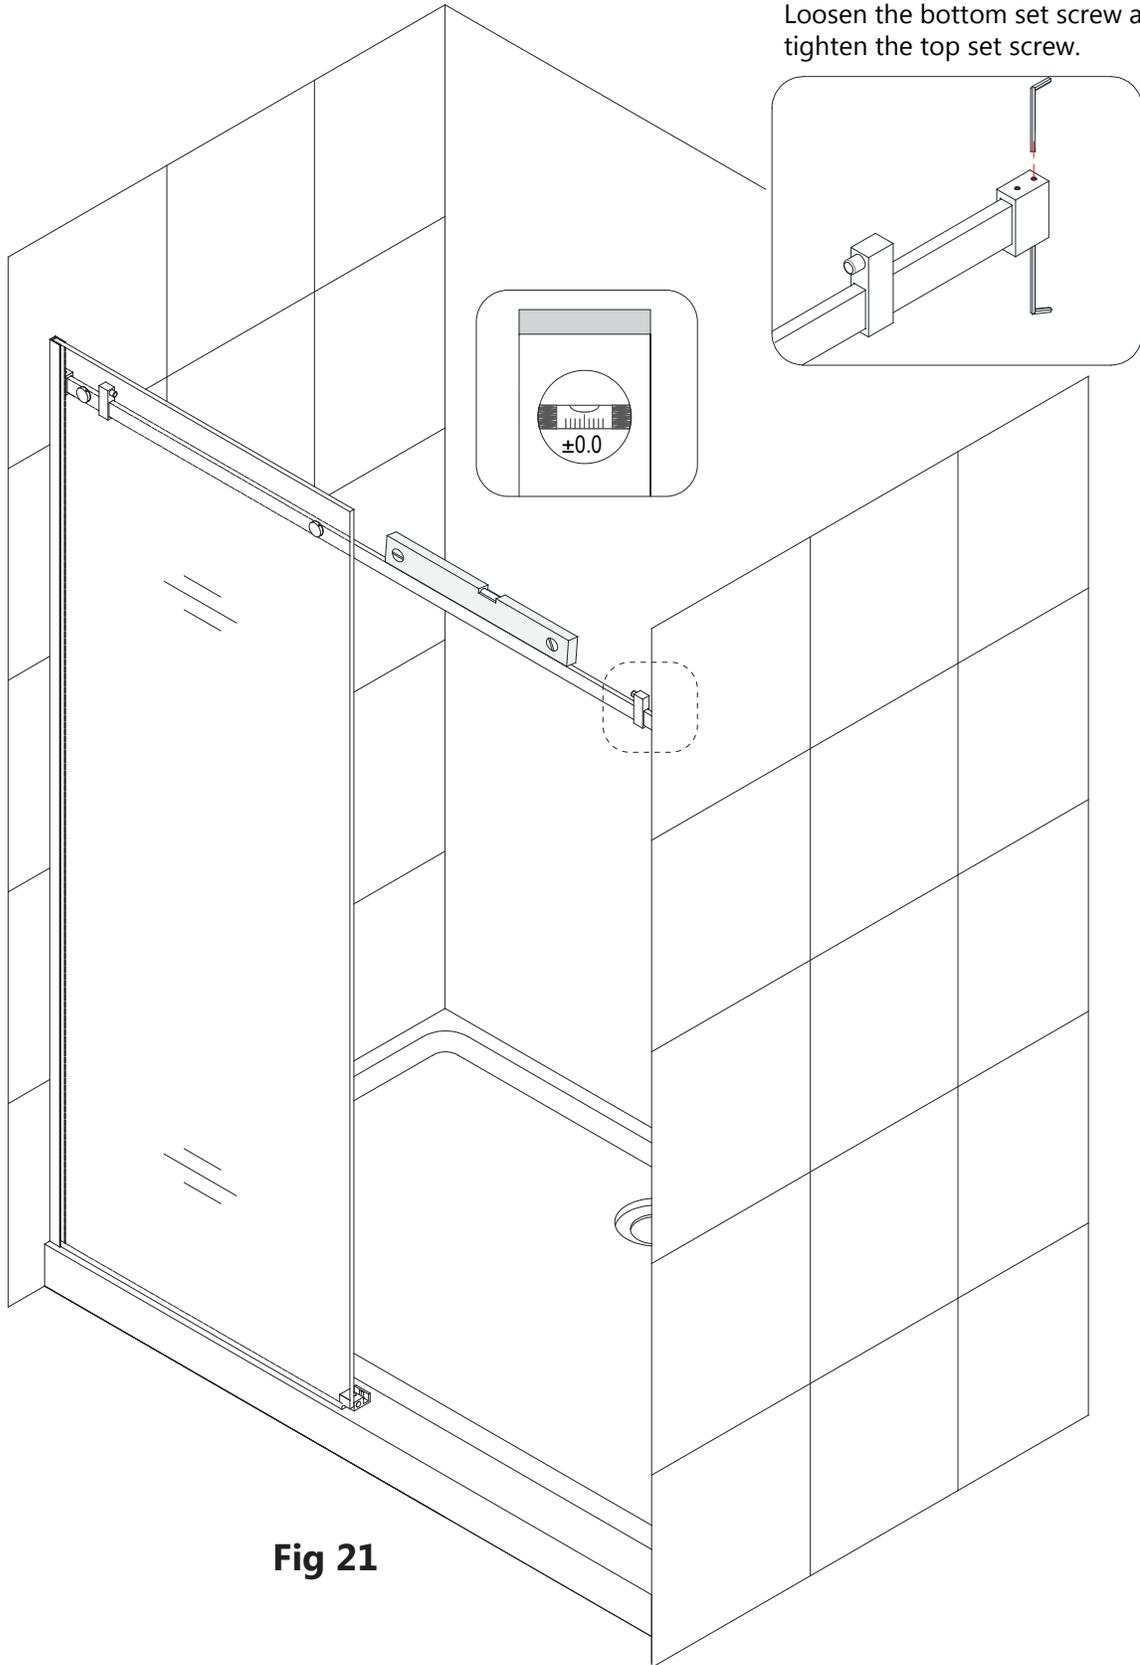

**Fig 20**
**20.** Re-attach the **Guide Rail (#04)** to the **Stationary Glass (#02)** and attach the **Guide Rail Brackets (#06)**. (**Fig 20**)